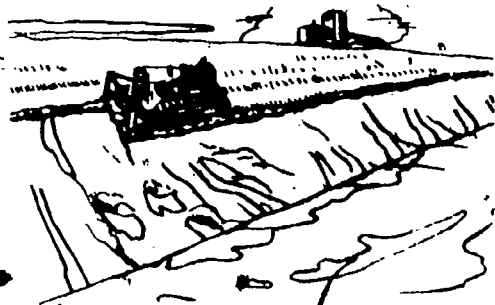
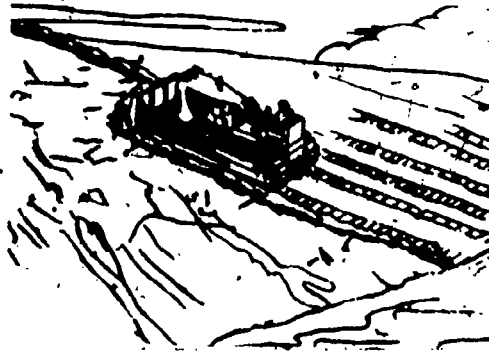

Fig 4-28. Parallel method of finishing a side slope with a dozer.
Fig 4-29. Diagonal method of finishing a side slope with a dozer.
c. Finishing side slopes. Two common methods of finishing a side slope are shown in figure 4-28 and figure 4-29. In finishing side slopes by working parallel to the right-of-way (fig 4-28), the dozer starts at the top and makes a series of overlapping passes along the slope. Irregularities in the ground will be filled as the windrow is worked down the slope. In finishing side slopes by working diagonally, the dozer starts at the bottom and works diagonally up the slope (fig 4-29). A windrow is formed and is continually drifted to one side by a series of overlapping passes, filling in low spots or irregularities. This is one of the few instances where a dozer may be most effectively employed by cutting uphill. You must know the capabilities of your equipment to perform these operations safely. Learn what degree of slope your tractor can negotiate safely under different soil and weather conditions.